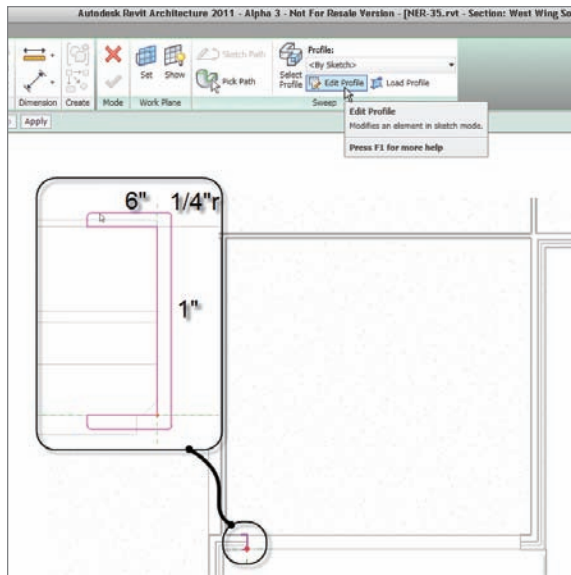

FIGURE 17.32 Sketching the profile
18. On the Sweep panel, click the Edit Profile button (see Figure 17.32).
19. Sketch the profile, as shown in Figure 17.32.